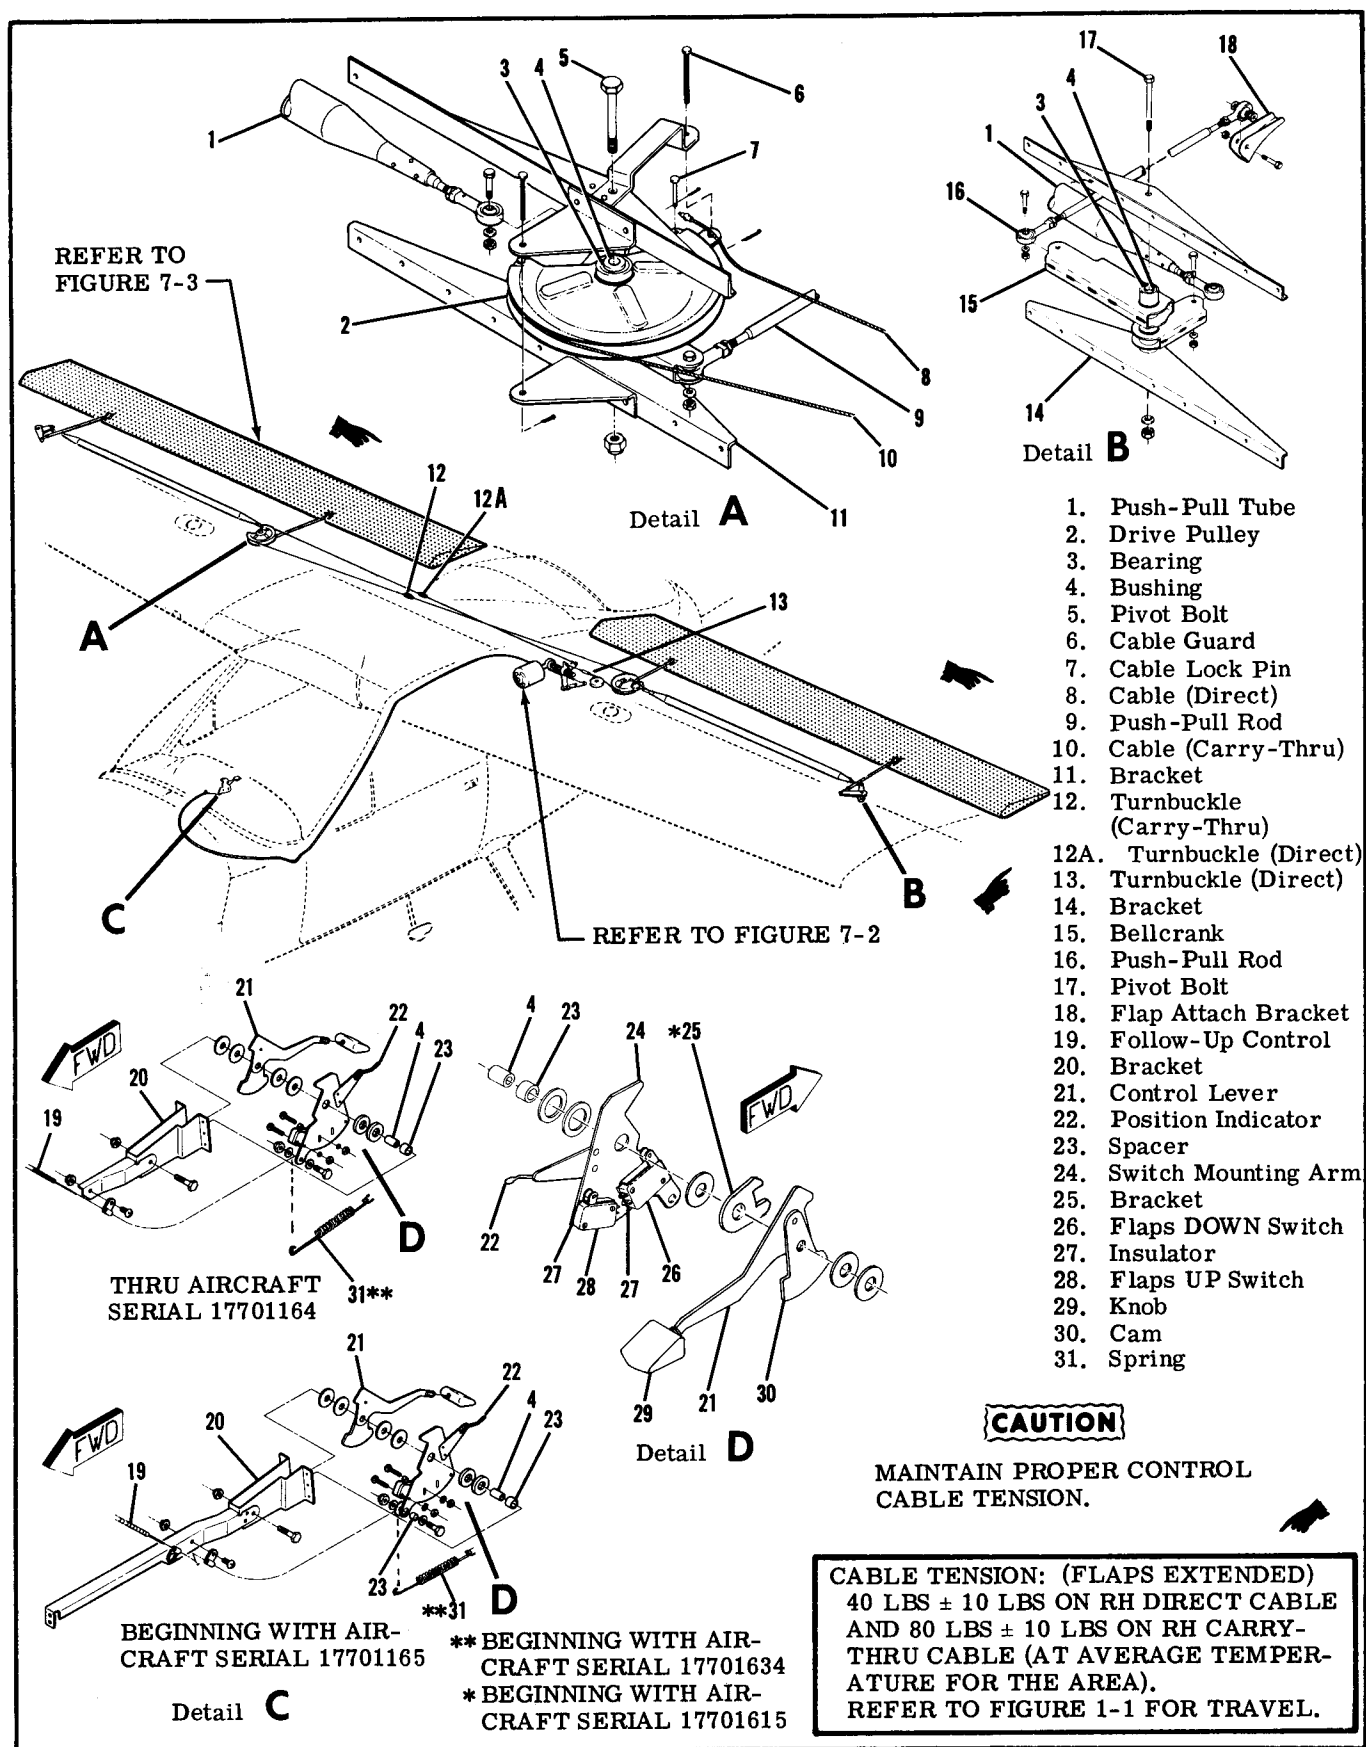
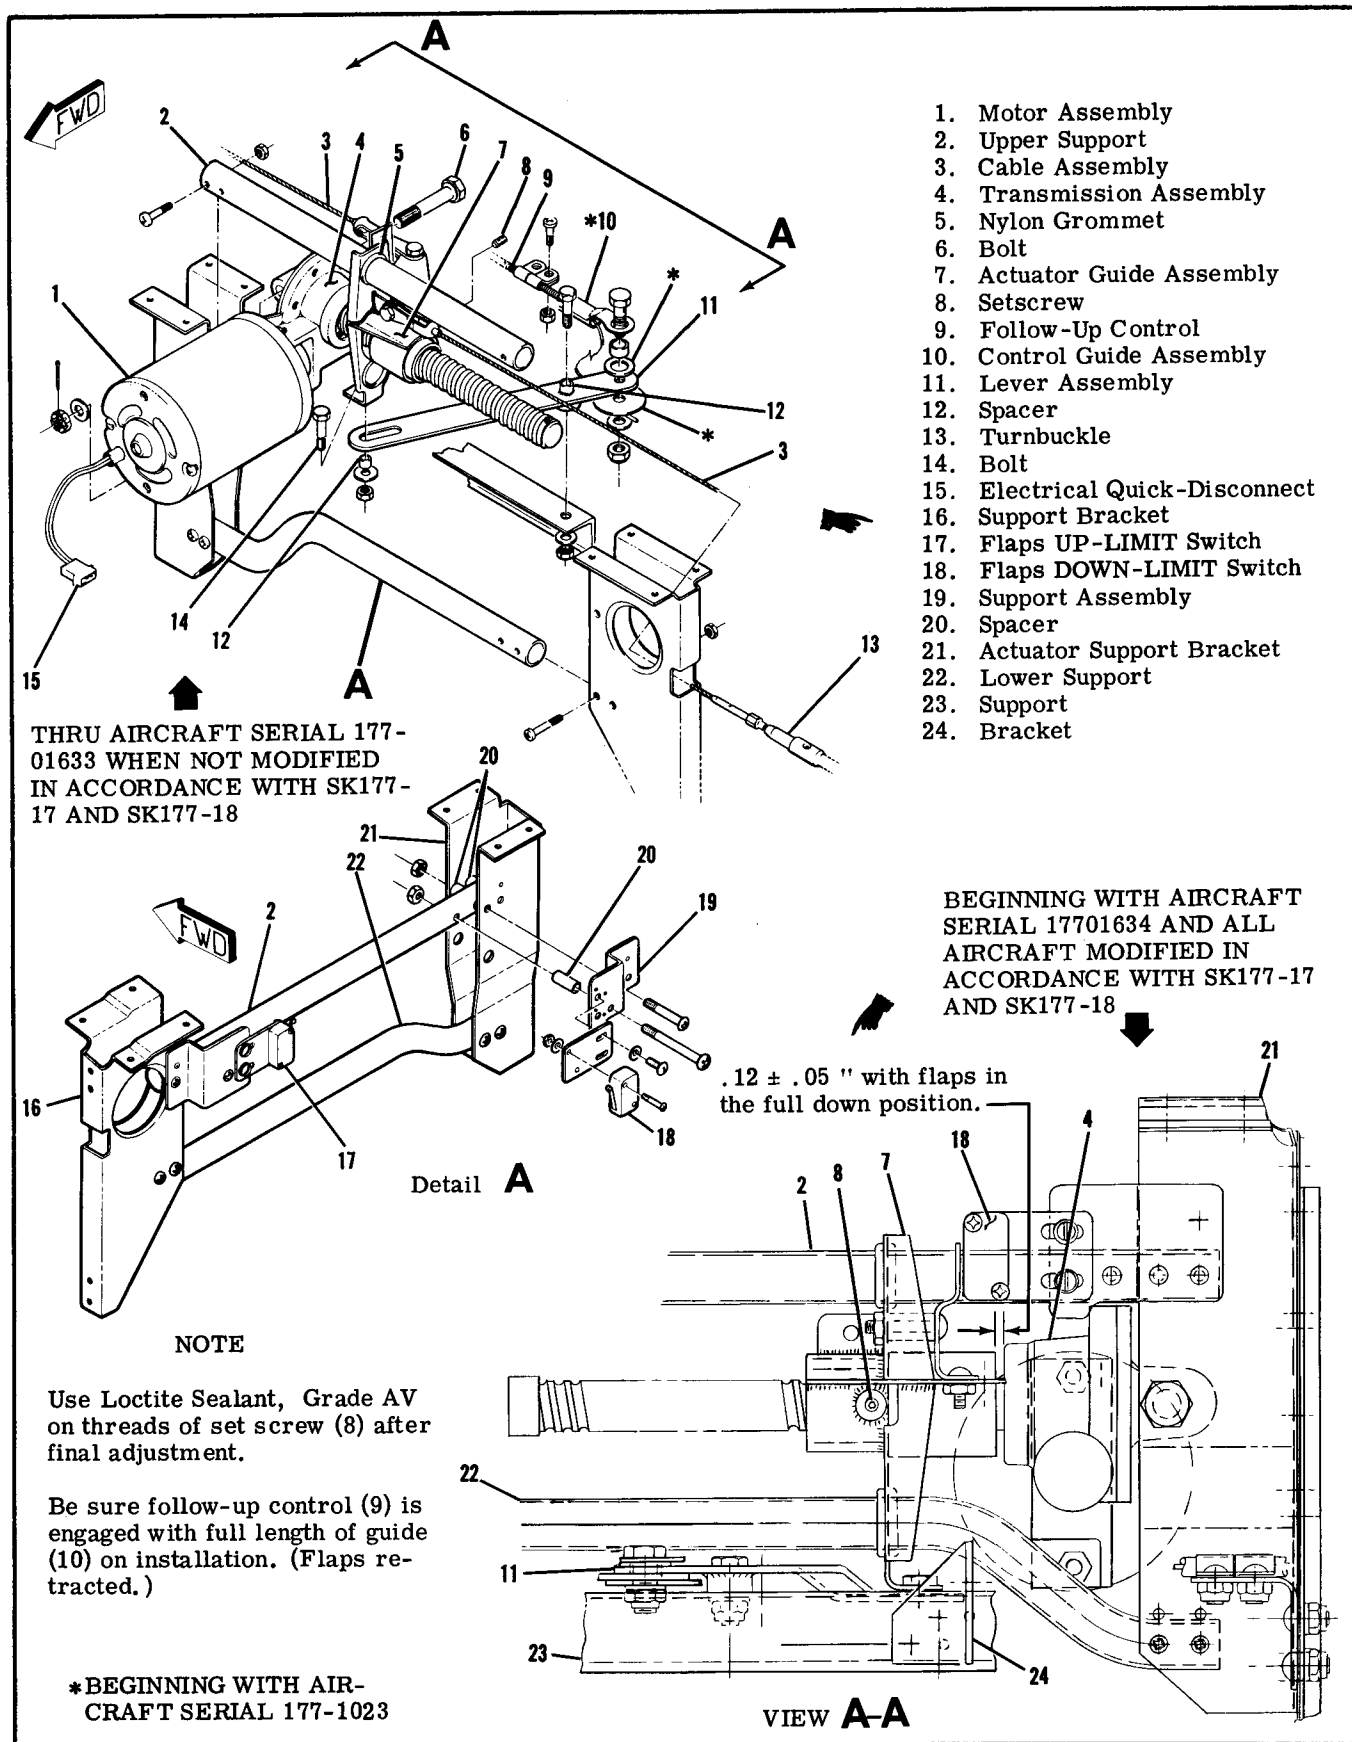
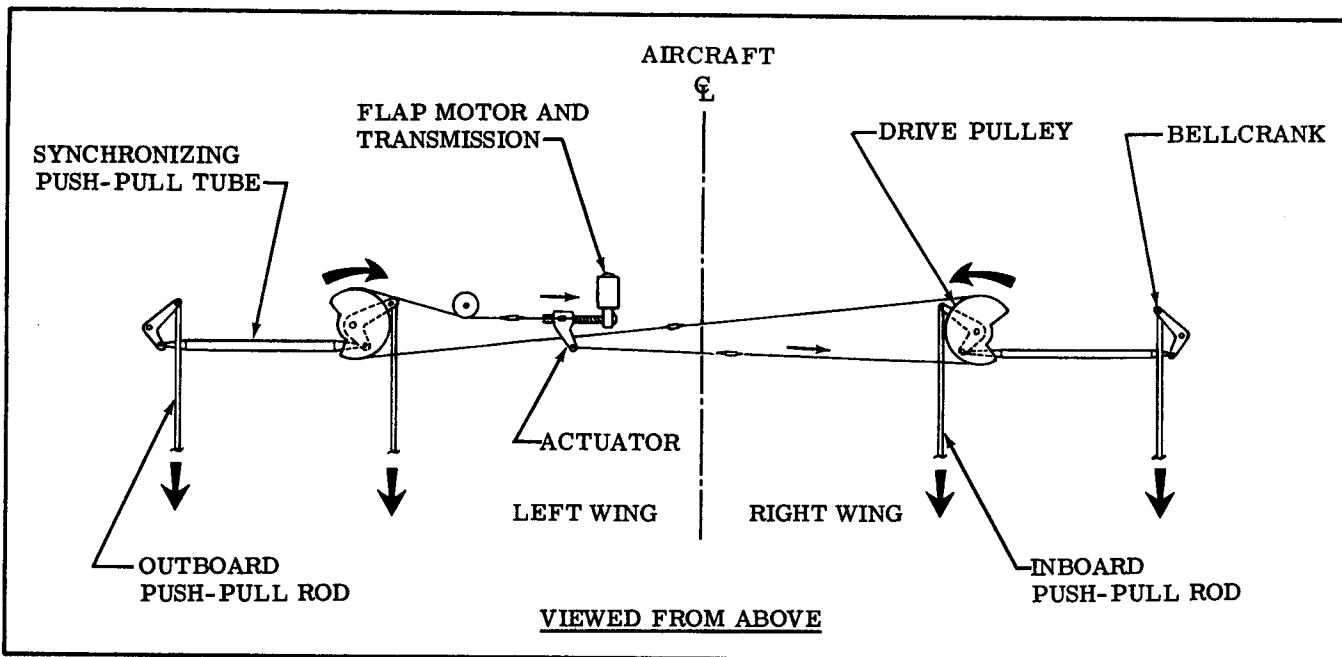

Figure 7-1. Flap Control System
Figure 7-2. Flap Motor, Transmission and Actuator Installation
Figure 7-4. Flap System Schematic
7-1. WING FLAP CONTROL SYSTEM. (Refer to figure 7-1.)
- d. (Refer to figure 7-1.) Remove headliner access cover, remove safety wire and relieve cable tension at turnbuckles (12 and 12A).
- e. (Refer to figure 7-2.) Disconnect direct cables (3) from actuator guide assembly (7).
- f. Remove bolt (14) securing follow-up control lever (11) to actuator guide assembly (7).
- g. Remove screws securing lower support (22) to brackets (16 and 21).
- h. Remove bolt (6) securing motor and transmission assembly to bracket (21). Move lower support (22) and motor and transmission assembly outboard to allow access to upper support screws.
- i. Remove screws securing upper support (2) to brackets (16 and 21). Place switches (17 and 18) and all attaching hardware out of the working area.
- j. Slide the lower support (22) out of grommet in the actuator guide assembly (7) and remove support from the wing.
- k. Disconnect electrical quick-disconnect (15).
- l. Using care, remove motor (1), transmission (4), actuator guide assembly (7) and upper support (2) from wing through access opening as a unit.
7-9. REMOVAL AND INSTALLATION. (Refer to figure 7-1.)
7-11. REMOVAL AND INSTALLATION. (Refer to figure 7-1.)
7-14. REMOVAL AND INSTALLATION. (Refer to figure 7-1.)
7-20. REMOVAL AND INSTALLATION. (Refer to figure 7-1.)
- c. Disconnect cables at drive pulleys (2).
- d. Disconnect cables at actuator assembly (index 7, figure 7-2).
1. (Refer to figure 7-2.) Run flaps to the FULL DOWN position.
2. (Refer to figure 7-1.) Remove headliner access cover, remove safety wire, relieve cable tension and disconnect turnbuckles (12 and 12A).
3. Disconnect push-pull rods (9) at both drive pulleys (2).
4. Disconnect push-pull rods (16) at both bellcranks (15).
5. Disconnect both synchronizing push-pull tubes (1) at the drive pulleys (2) and bellcranks (15).
6. If the cables are to be replaced, and the drive pulleys (2) ARE installed in the wings, rotate the drive pulleys beyond their normal range of travel to permit cable attachment. If the drive pulleys ARE NOT installed in the wings, it may be easier to attach the cables prior to installing the drive pulleys in the wings.
7. Attach the direct and carry-thru cables in accordance with schematic in figure 7-4.
8. Adjust the synchronizing push-pull tubes (1) to 41.94" between centers of rod end holes, tighten jam nuts and install push-pull tubes.
9. Adjust inboard push-pull rods (9) to 12.12" and outboard push-pull rods (16) to 11.57" between centers of rod end holes, tighten jam nuts and install push-pull rods.
11. (Refer to figure 7-2.) Run flaps FULL UP AND FORWARD and adjust UP-LIMIT switch (17) to operate and shut-off motor at this position.
13. Run flaps DOWN and adjust DOWN-LIMIT switch (18) to operate and shut-off motor at the 30°+2°-0° position.
14. (Refer to figure 7-1.) Operate control lever (21) and run flaps to the full UP position.
15. Disconnect follow-up control (19) at switch mounting arm (24).
16. Without moving the control lever (21), move arm (24) until cam (30) is centered between switches (26 and 28). Ensure switches are centered in their respective adjustment slots prior to centering cam (30).